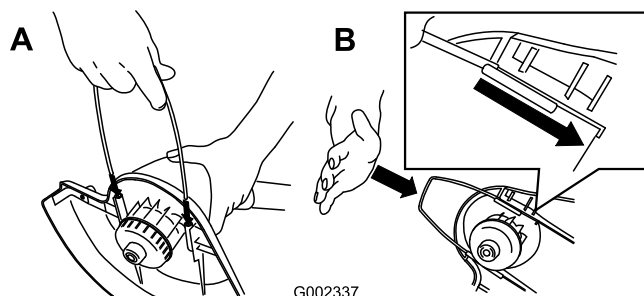

Figure 3
4. Install the metal wire guide (Figure 3).